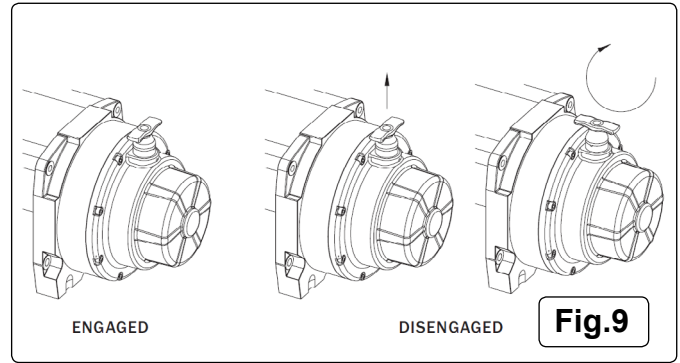

Fig.9
4.2.1 Pull and rotate the clutch lever to the, "disengaged" position as shown in fig.9
4.2.4 Re-engage the drum by rotating the clutch lever to the "engaged" position, see fig.9.